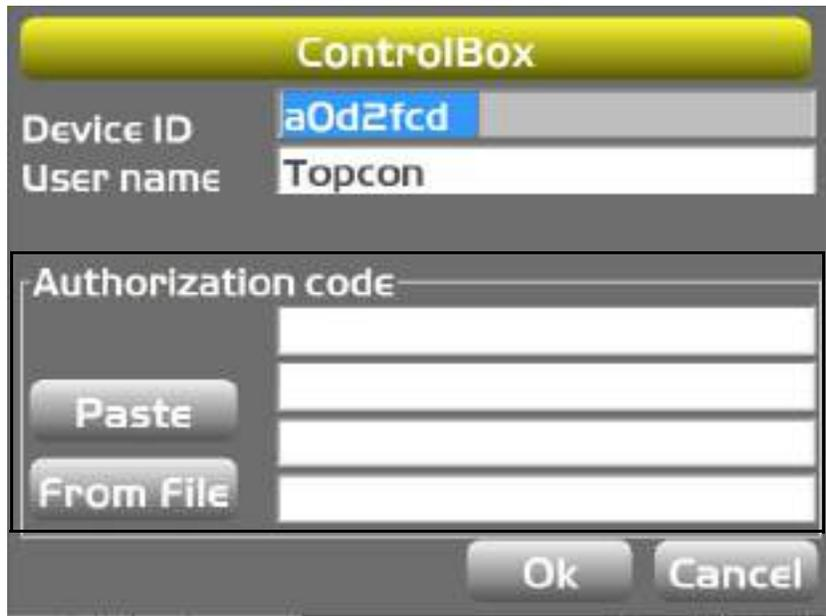

Figure 16. 3DMC SiteLINK Server Connection
3. Enter the *Authorization code* provided by your dealer or SiteLINK administrator, and press **Ok** (Figure 16)